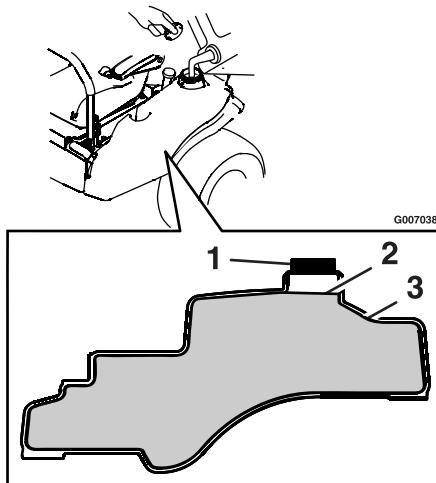

Figure 8
3. Add unleaded regular gasoline until the body of the tank is full but fuel does not fill the neck of the tank (Figure 8). This space in the neck of the tank allows gasoline to expand. Do not fill the fuel tank completely full.